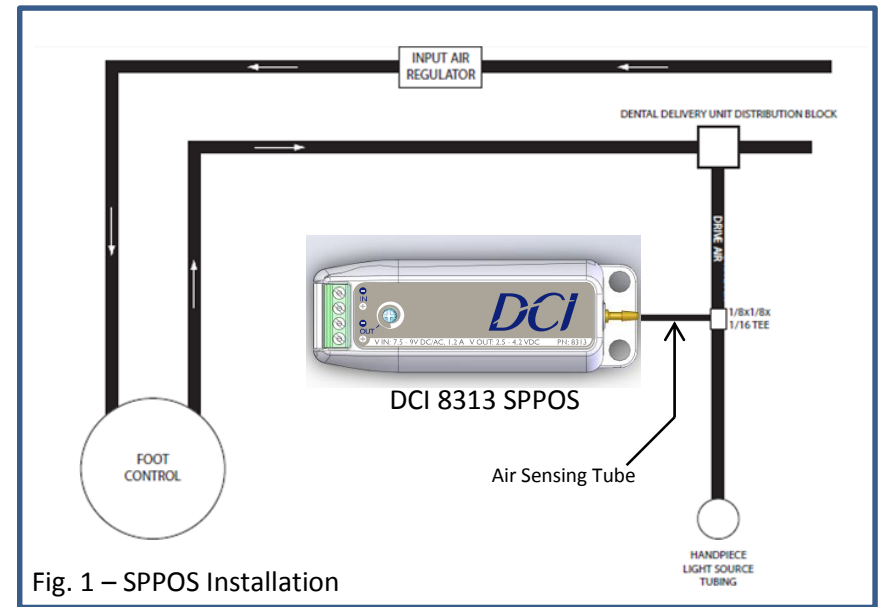

Fig. 1 – SPPOS Installation
- Handpiece light source tubings are available in various styles and colors to be compatible with dental unit colors and desired handpiece connections. If the unit doesn't already have a handpiece light source tubing, replace the entire existing handpiece tubing with one that is compatible with the particular handpiece being used. Install a 1/8 x 1/8 x 1/16 plastic tee and air sensing tube assembly into the drive-air line of the appropriate handpiece position not more than 12" from the desired location of the SPPOS. See Fig. 1.